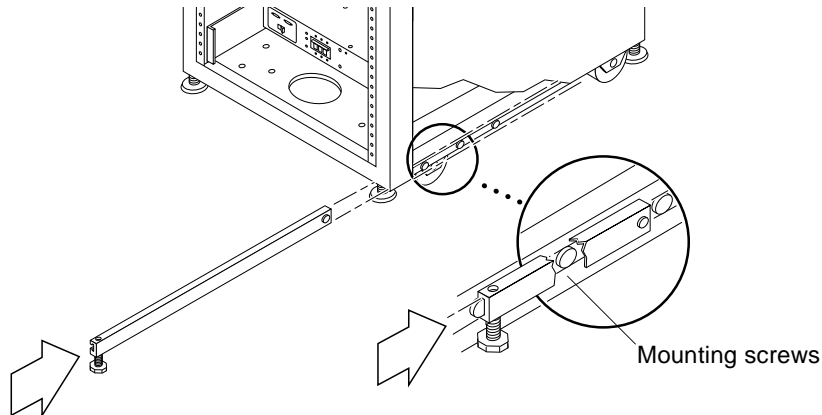

FIGURE 2-3 Installing the Right Stabilizer Leg
2. Slide the right stabilizer leg over the three mounting screws at the bottom of the system cabinet (FIGURE 2-3) and fully extend it.